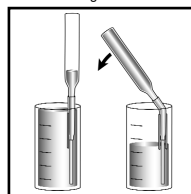

Figure 4
6. Place the VACUette between the vertical tip guides on the inside of the dilutor snapper cup. Snap the ampoule tip. The ampoule will fill, leaving a bubble for mixing (fig. 4).